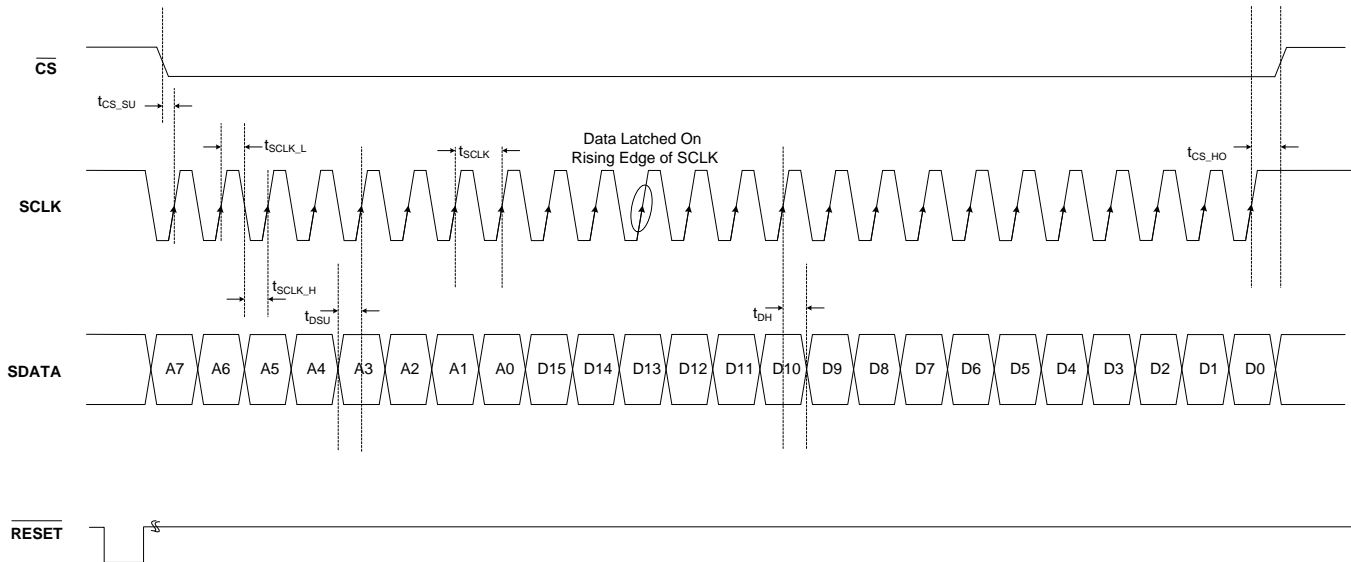
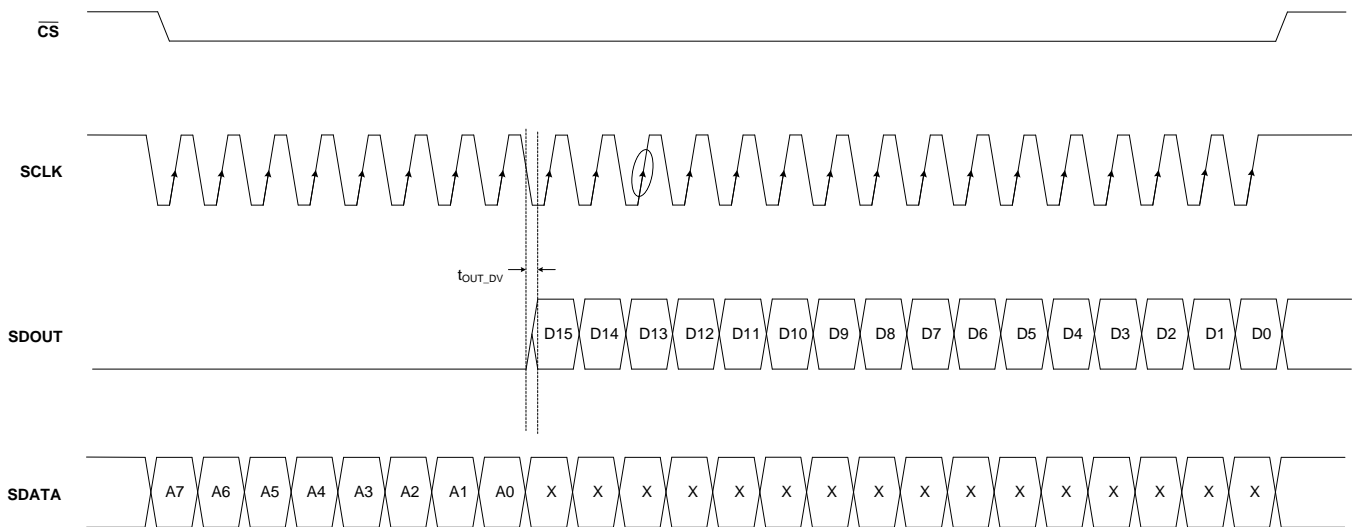

Figure 74. Serial Interface Write Timing Diagram
Figure 76. Serial Interface Read Timing Diagram
1. Either through a hardware reset by applying a low pulse on the \overline{RESET} pin (of widths greater than 50 ns), see Figure 74; or
Table 7. Timing Characteristics for Figure 74 and Figure 76⁽¹⁾
(1) Typical values are at T_A = +25°C, minimum and maximum values are across the full temperature range of T_{MIN} = -40°C to T_{MAX} = +85°C, unless otherwise noted.
(2) See Figure 76.
To exit serial readout mode, reset the EN_READOUT register bit to '0', which enables writes to all device registers. At this point, the SDOUT pin is in 3-state. A detailed timing diagram for the serial readout mode is shown in Figure 76.